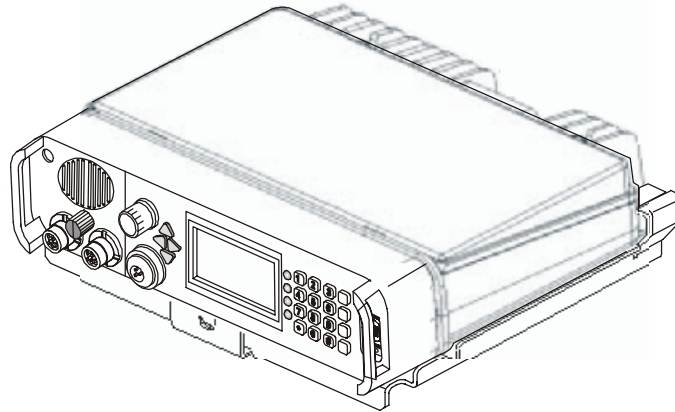

Figure 21. Fitting Radio onto Mounting Tray
2. If a mounting tray is used, slide the radio with bracket into the tray and fasten the bracket to the tray with the supplied screw (see Figure 21 on page 118).